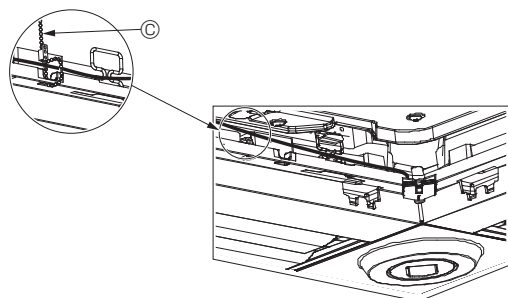

Fig. 5-13
- Secure the i-See sensor and signal receiver wires to the panel with the fastener as shown in the diagram so that there is no slack in the wires, and then cut off the excess end of the fastener. (Fig. 5-13)
- If the position of the i-See sensor was changed from the "○" position (E) to the "□" position (F), change the switch settings. (Refer to page 10.)